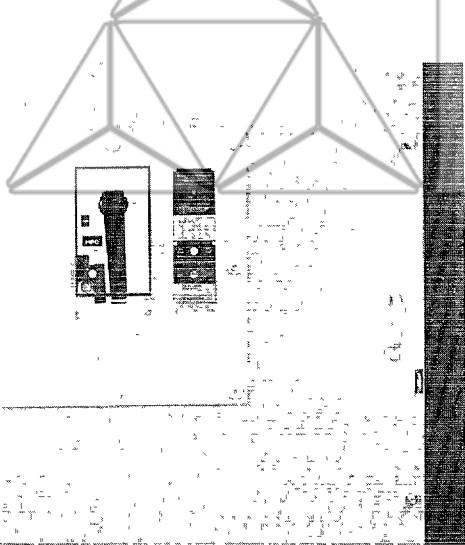

Figure 5
6. HPC switches with Integral Ground Fault and Test Function (Switch Cat. No. Suffix "G3T") require removal of the filler plate on the enclosure door (adjacent to the handle opening). Replace the filler plate with the test instruction nameplate. See Figure 5.